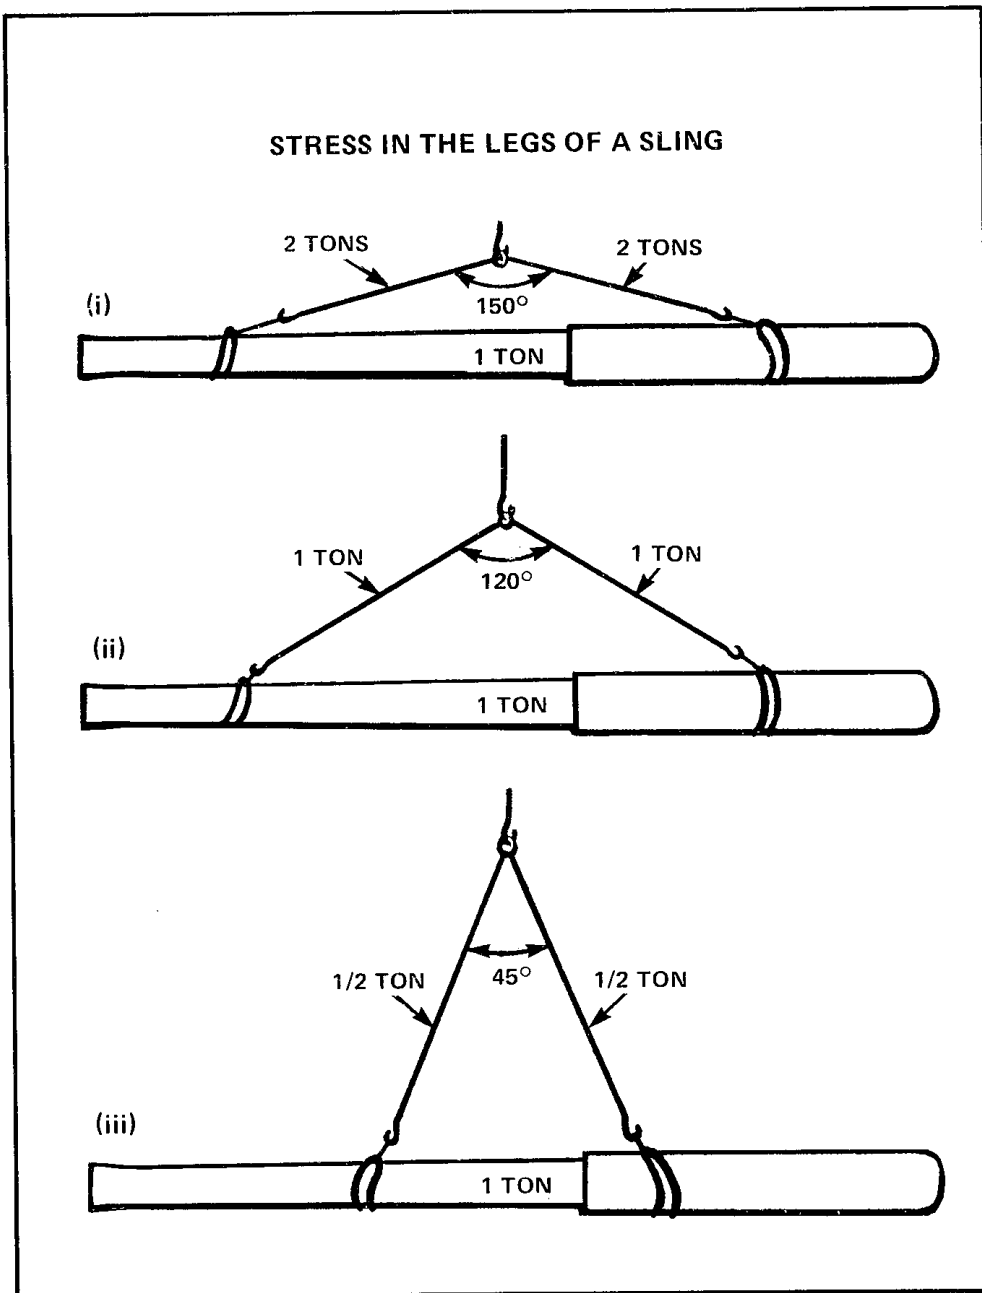

Figure 4-68 Stress in the Legs of a Sling
20. **Stress in the Legs of a Sling** — An important principle in slinging is illustrated in the three diagrams in Figure 4-68. These show an object weighing one ton slung in three different ways, with the tension in each leg of the slings marked in each method. It will be seen that **the greater the angle between the legs of the slings, the greater is the tension they have to bear**. For two-legged slings used in commercial practice the working load is laid down for various angles between 0 degrees and 120 degrees. These slings are seldom, if ever, permitted to be used with the legs beyond this limiting angle of 120 degrees. However, there are occasions when an unavoidably large angle has to be accepted, and the seaman must then take care that his sling is strong enough to take the extra strain.